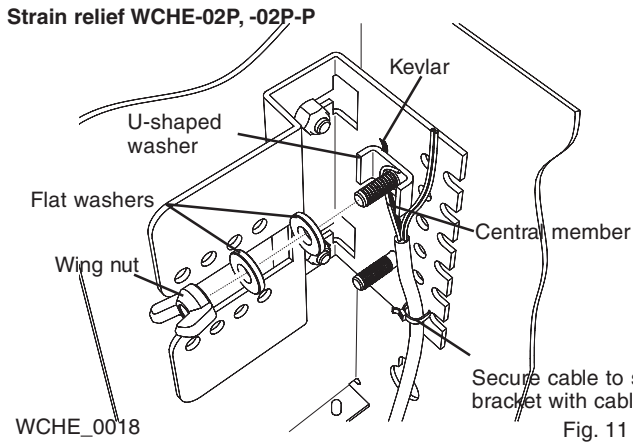

Fig. 11
6.3 Trial position the cable on the cable strain-relief bracket as in Fig. 11/12 minimizing bending of the cable. If the cable being installed contains Kevlar and a central member, you will need to attach a square-neck bolt, a U-shaped washer and flat washers to the bracket to strain relieve the cable. In the case of the WCHE-02P and WCHE-02P-P housing the bolt is mounted permanently.
Start the bolt into a square hole in the strain-relief bracket as shown. Wrap the Kevlar from the cable around the bolt (between the U-shaped washer and the strain-relief bracket) in a clockwise direction. Insert the central member between the U-shaped washer and the first flat washer. Place the second flat washer on top and tighten the wing nut (Fig. 11/12). Trim the excess central member and Kevlar.